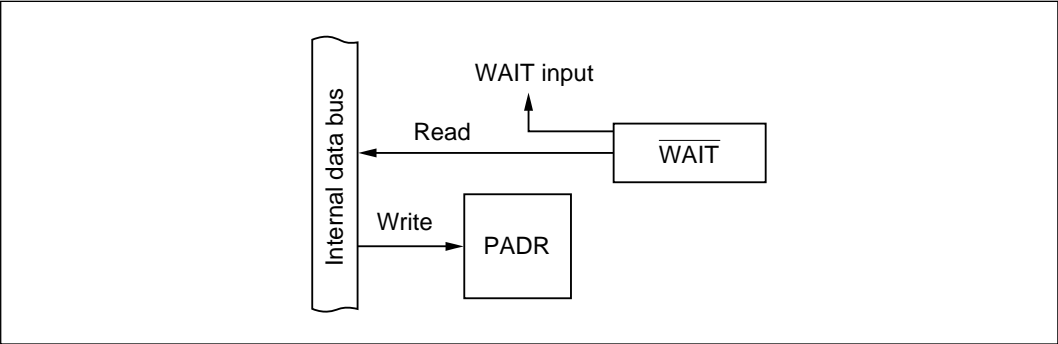

Figure 9-65 $\overline{\text{WAIT}}$ Input Pin (Modes 1 to 6)
(5) $\overline{\text{WAIT}}$ Pin (PA₄: Modes 1 to 6): Figure 9-65 shows a block diagram illustrating the $\overline{\text{WAIT}}$ function. Table 9-48 indicates register read/write data. When PA₆ is used for $\overline{\text{WAIT}}$ input, the value written in the port A data register (PADR) has no effect. When read, PADR returns the level of the $\overline{\text{WAIT}}$ signal.